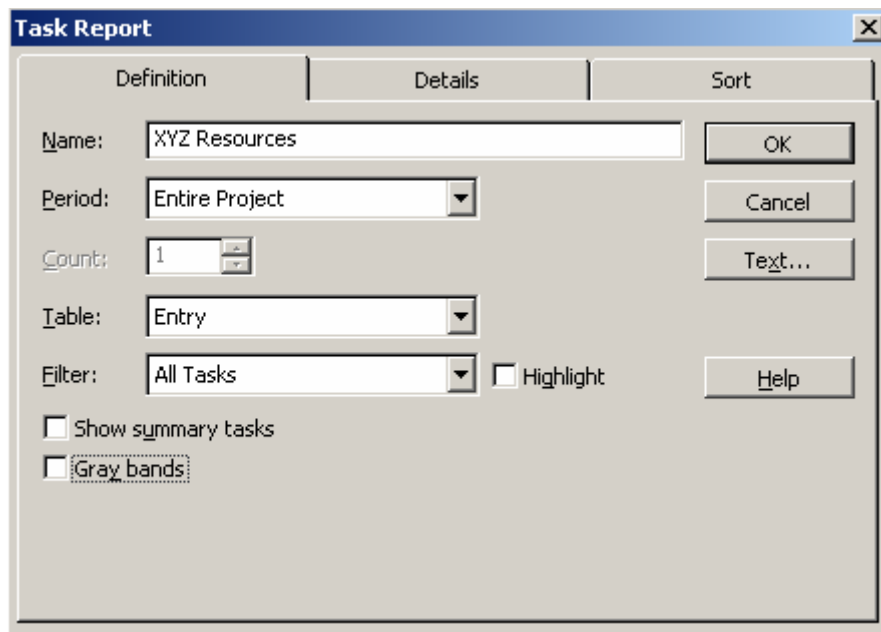

Figure 11.24: Modifying Reports
1. Click the Definition tab in the Task Report dialog box. The Task Report dialog box is displayed in Figure 11.24.